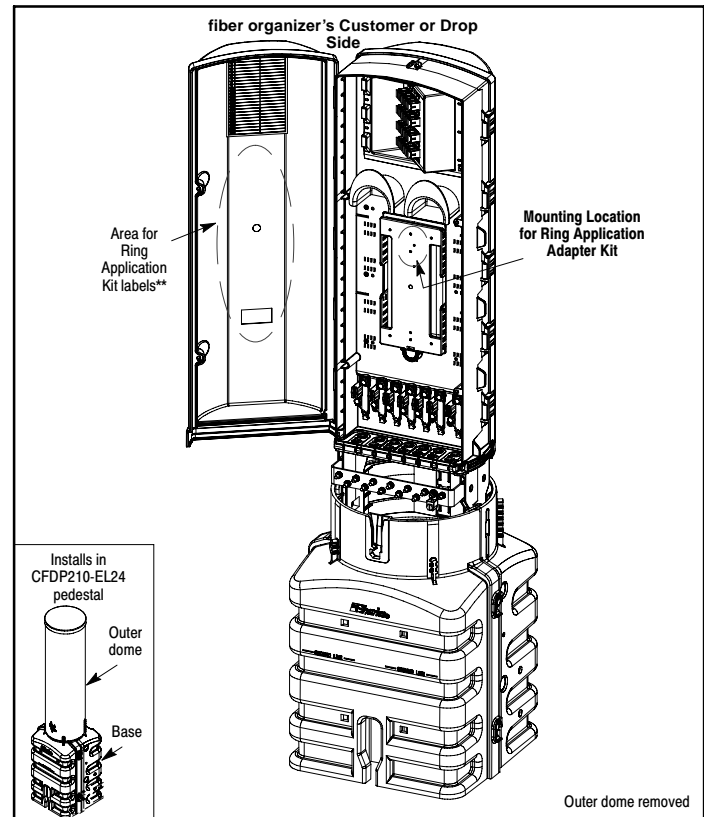
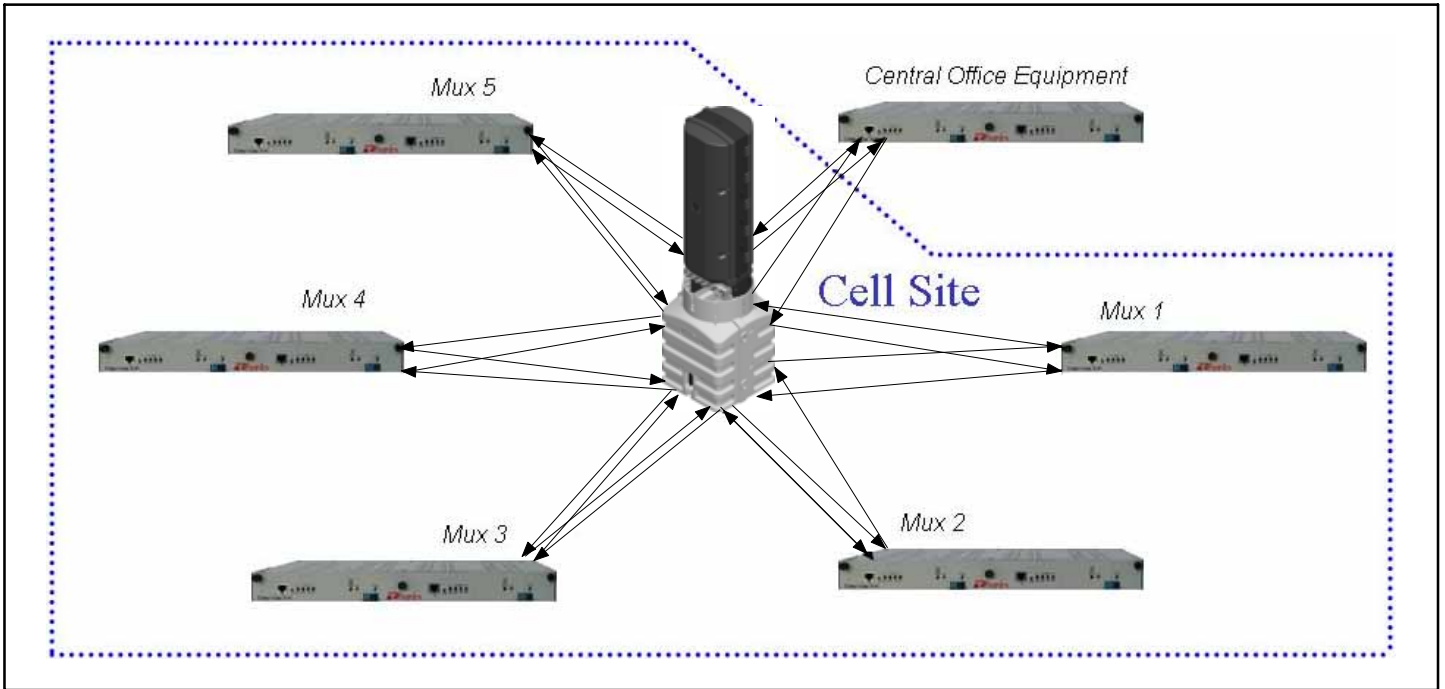

Figure 2. Customer (Drop) Side of CFDP210-EL24 Pedestal
Figure 3. Pedestal Shown in a Cell-Site Ring Application (serves up to 5 MUXes, 4 Fibers per MUX)
1.3 Product Purpose and Description. The Charles 80-002665-F is a bulkhead that consists of an L-shaped plate equipped with factory-installed SC/UPC adapters and mounting screws for installation on a field-installed Charles CFDP210-EL24 pedestal fiber organizer. The kit converts a field-installed Charles CFDP210-EL24 pedestal (Figure 2) to a CFDP210-EL32R pedestal, which allows the pedestal to be used in ring applications. The kit allows up to five MUXes in a ring configuration that features both a "Working" (Service) circuit and a "Protect" circuit for continuous operation, even during times of repair or maintenance. Figure 3 illustrates a cell-site ring application, and Figure 4 is a fiber routing diagram for ring and point-to-point applications.
1.4 Product Mounting Location. The kit is field-installed on the customer/drop side (Figure 2) of the CFDP210-EL24 pedestal's fiber organizer. See Figure 5 for a closer view of the mounting location. Table 1 provides detailed installation steps.